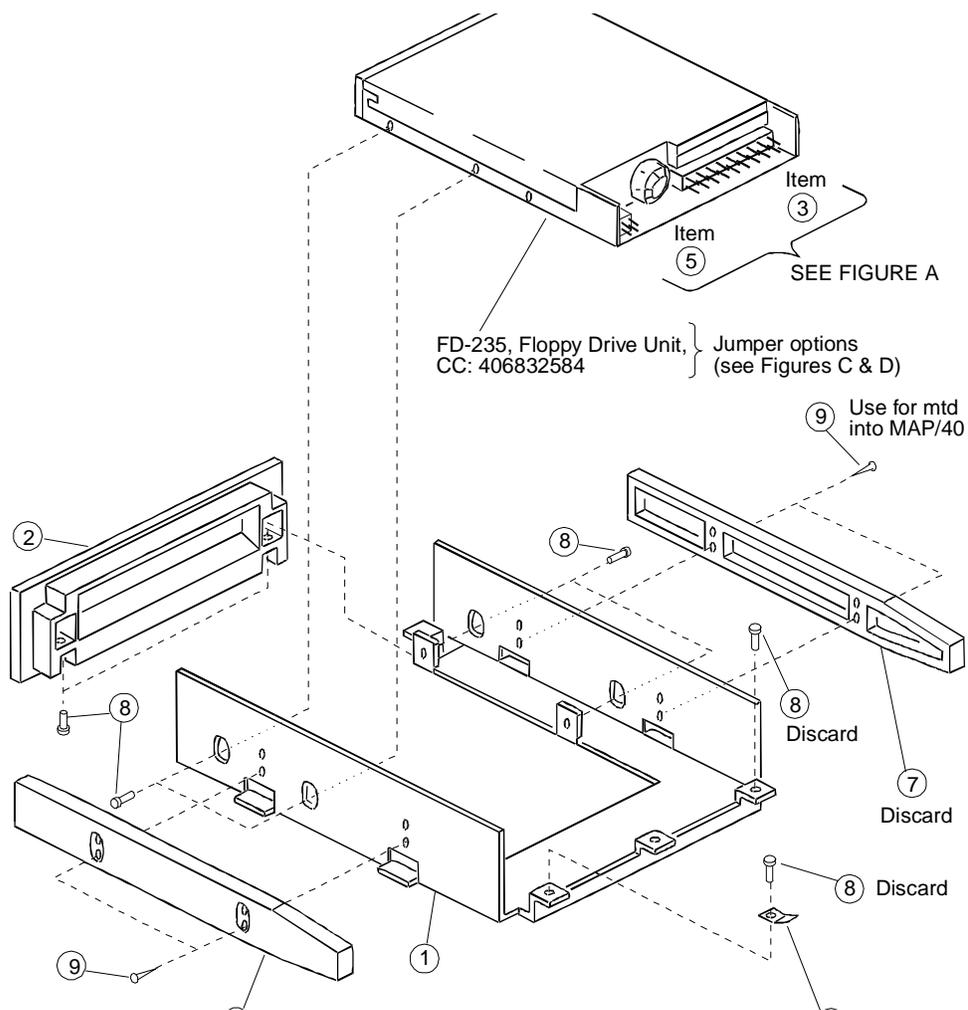

Figure 7-6. Floppy Disk Drive Assembly
- Remove the four 3-millimeter screws that secure the drive unit to the 5.25-inch floppy disk drive hardware mounting kit. These screws are shown as item 8 in Figure 7-6.
12. Slide the drive unit back to clear the front bezel. The bezel is shown as item 2 in Figure 7-6.